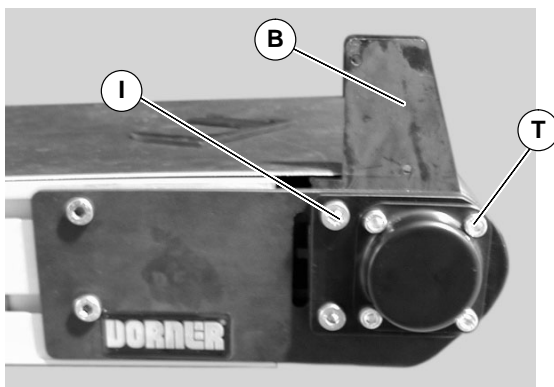

Figure 26
9. Replace with new spacer plates (B of Figure 26). Insert screws (I) and (T) and hand tighten.